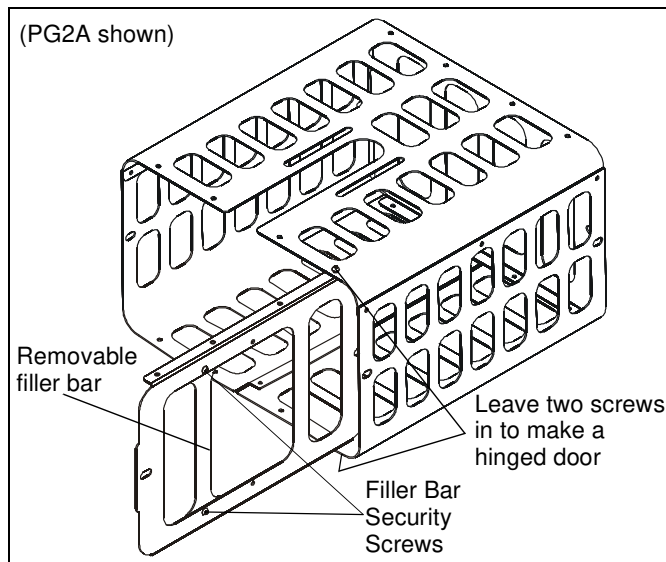

Figure 5
1. Remove and keep the security screws from the top and bottom of the front except for the two screws on the right side of the projector guard. (See Figure 5)
2. Place projector inside the projector guard (See Figure 5)